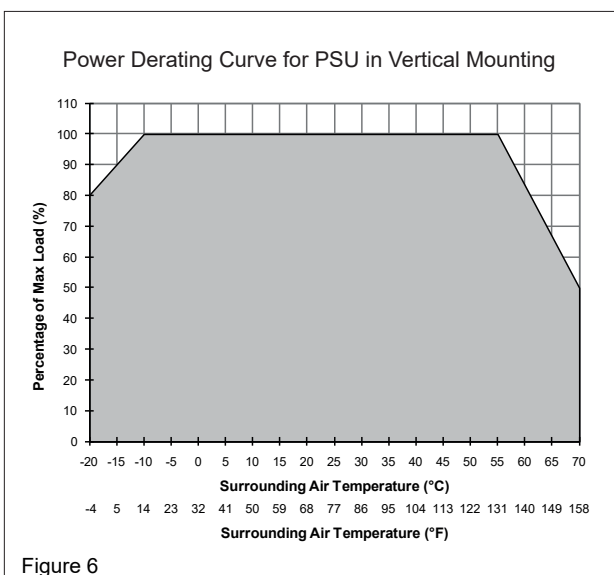

Figure 6
5.4. Thermal behavior (Fig. 6)
Derating	Refer to Fig. 6 -10°C to -20°C (2%/°C), > 55°C (3.33%/°C) in vertical orientation
Operating temperature (surrounding air temperature)	-20°C to +70°C [-4°F to +158°F] (Refer to Fig. 6)